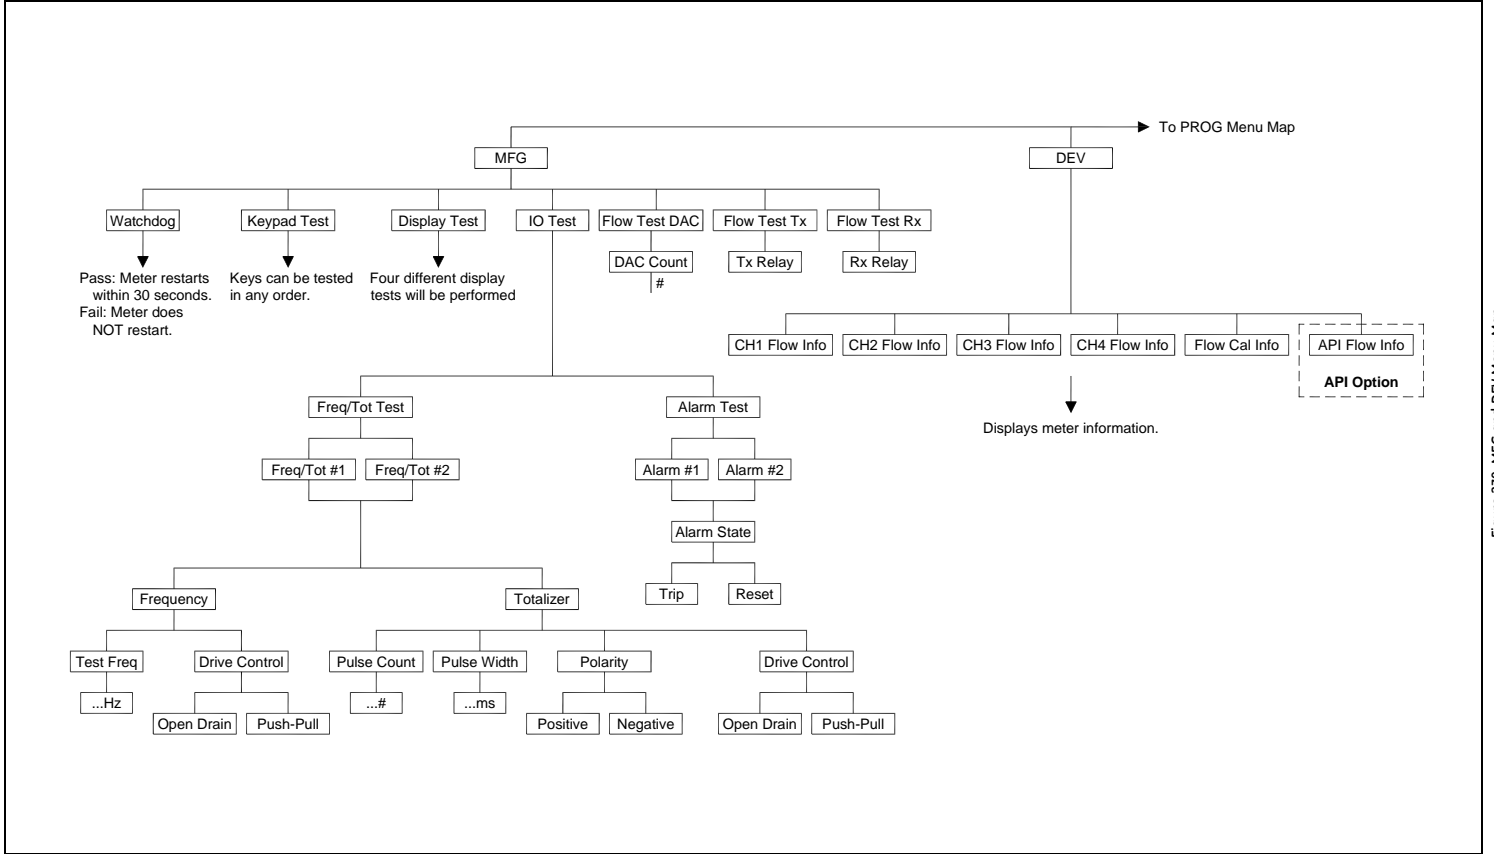

Figure 230: MFG and DEV Menu Map
- **Figure 230: MFG and DEV Menu Map**